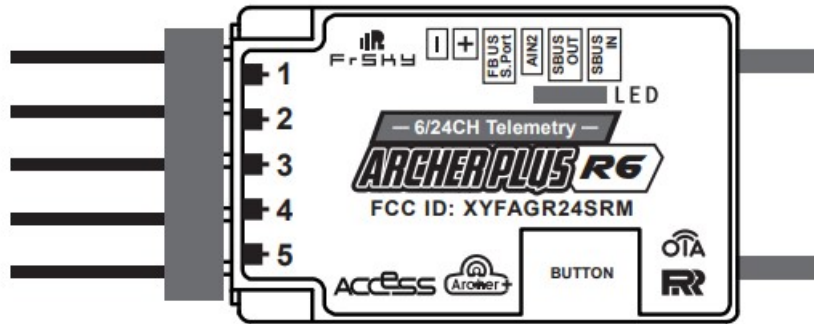

Figure 42: Archer Plus R6
- ii. On the Archer Plus R6, hold down the receiver button while powering up the Archer Plus R6. (Figure 42)